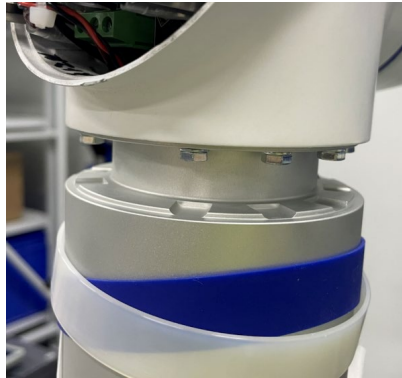

Figure 3-13 Remove the upper arm rubber ring and supporting ring
- Gently remove the rubber ring and hang it around the upper arm to remove the supporting ring as shown in Figure 3-13: